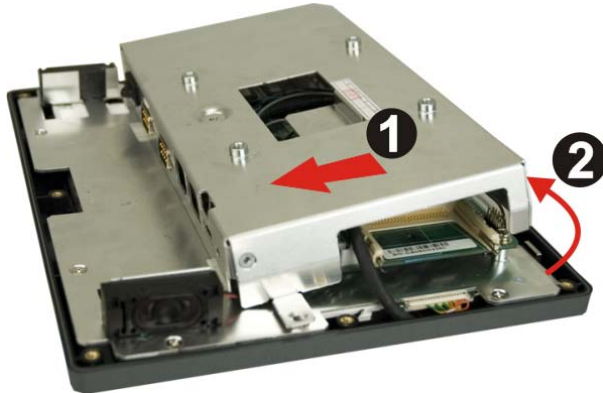

Figure 4-6: The Internal Aluminum Cover Removal
Step 5: Push the external interface connector apart from the aluminum cover and lift the cover (Figure 4-6).